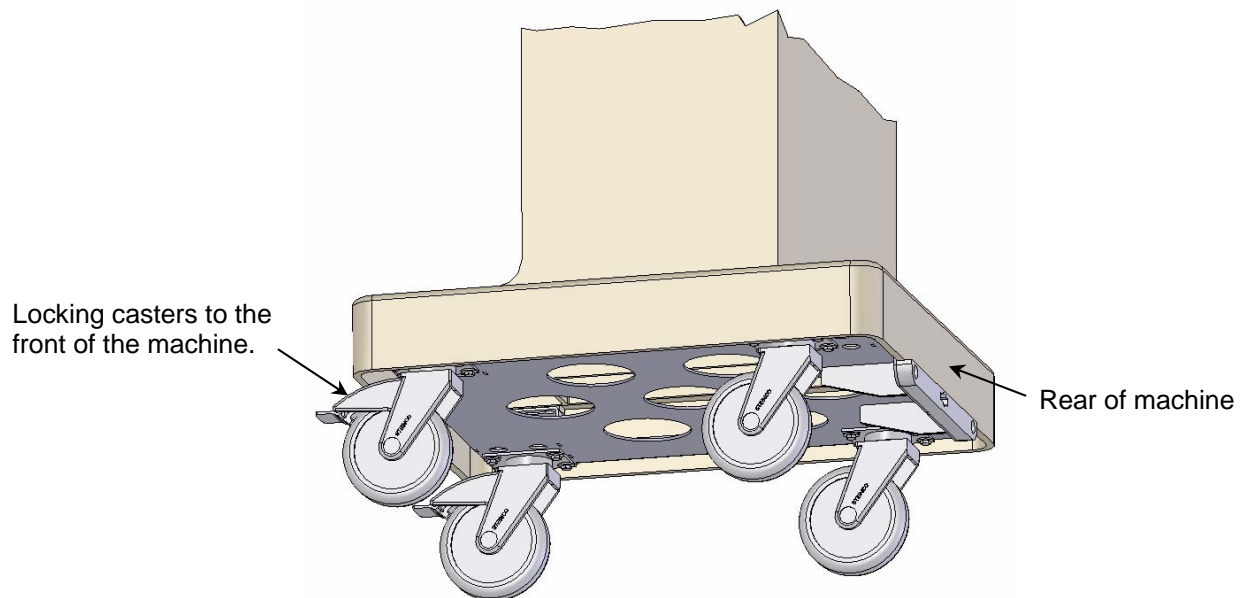

Figure 3 – Fully Assembled
8. Locate and install the two (2) locking casters and the two (2) non-locking casters to the caster plate using four (4) M6X16 screws (LMW P/N 3049412) and four (4) 6.4X18 washers (LMW P/N 30 32405) per caster. The locking casters should be mounted to the front of the machine (See Figure 3).